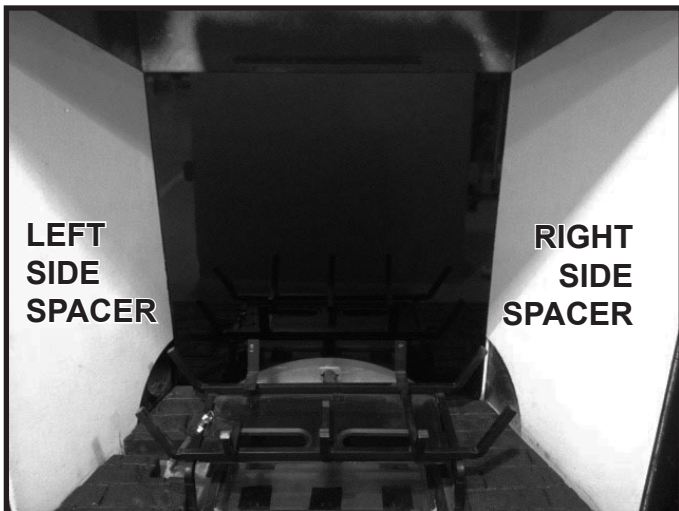

Figure 11.13 Installed Black Glass Rear Panel
- Place back glass panel with arched portion down into the rear of the appliance. See Figure 11.13. Slide the white side spacers toward the rear of the appliance until they contact the rear glass panel.